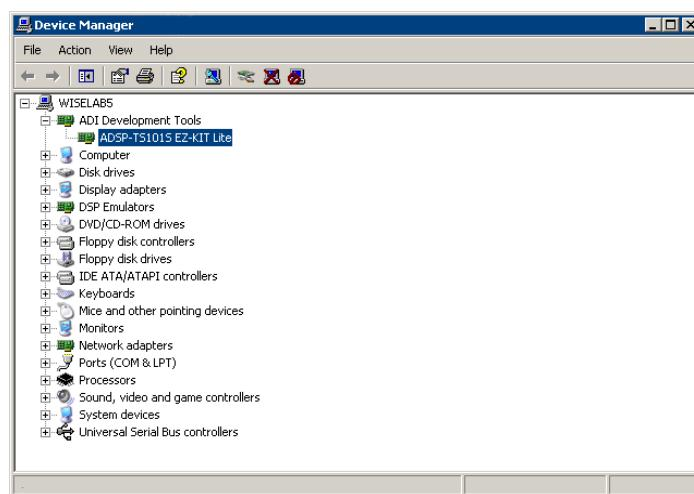

Figure 1-12. Device Manager Window
5. Open Windows Device Manager and verify that ADSP-TS101S EZ-KIT Lite shows under ADI Development Tools with no exclamation point, as in Figure 1-12.